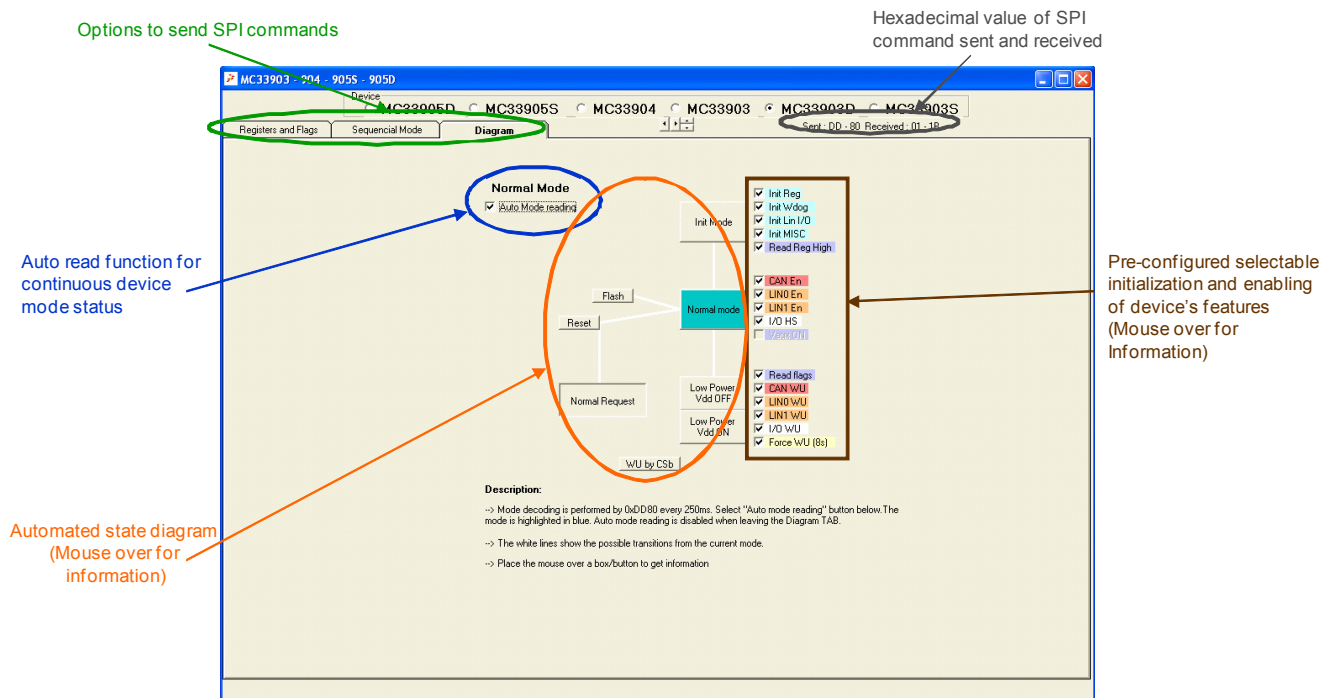

Figure 9. SPIGen Graphical User Interface (Automated State Diagram Mode)
2. Select **Normal Mode** option to enable auto read function for continuous device mode status as shown in Figure 9.